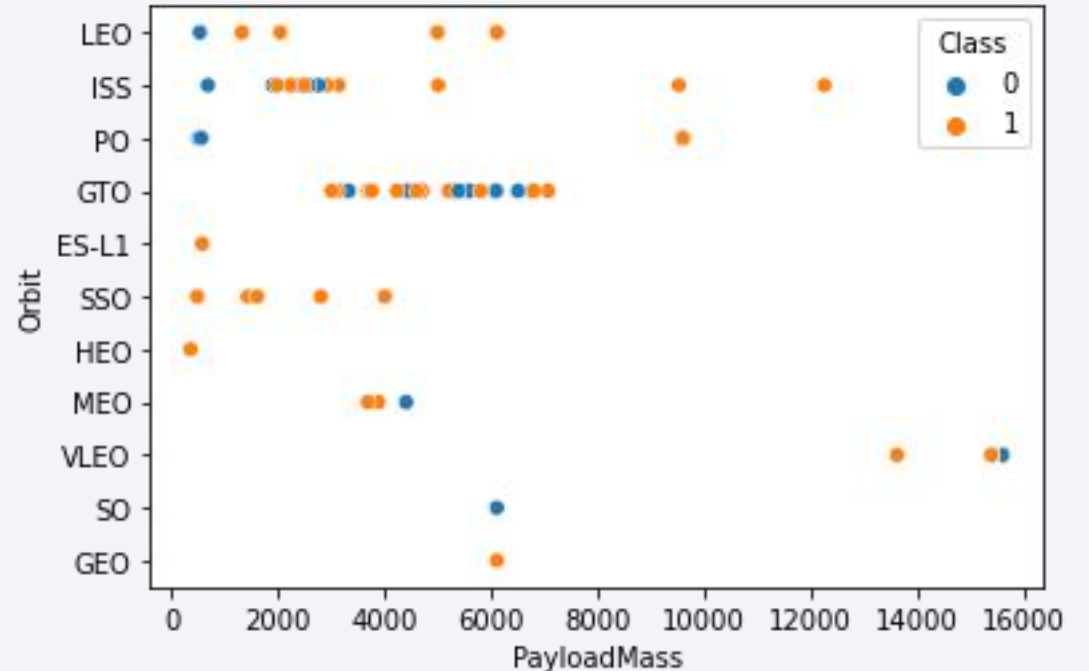

Fig7. Scatter plot for Payload with Orbit
- According to this Fig7., we concluded that for a specific type of orbit, the payload mass is limited, for example, the payload mass for GEO and SO orbit is just 6000 (kg).